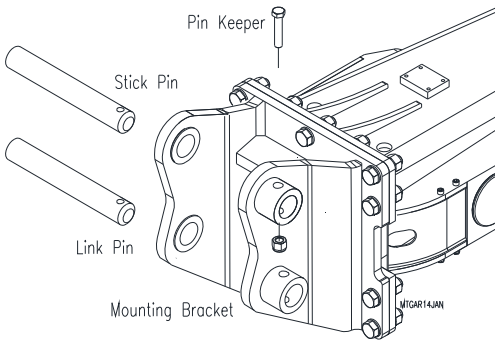

Fig 9-2 Mounting Bracket – Pin-On Typical
1. Operator: Move carrier and breaker to a firm level surface. Refer to Figure 9-2. Position the breaker horizontally with the hose side up and with the breaker's tool pointing toward the carrier.